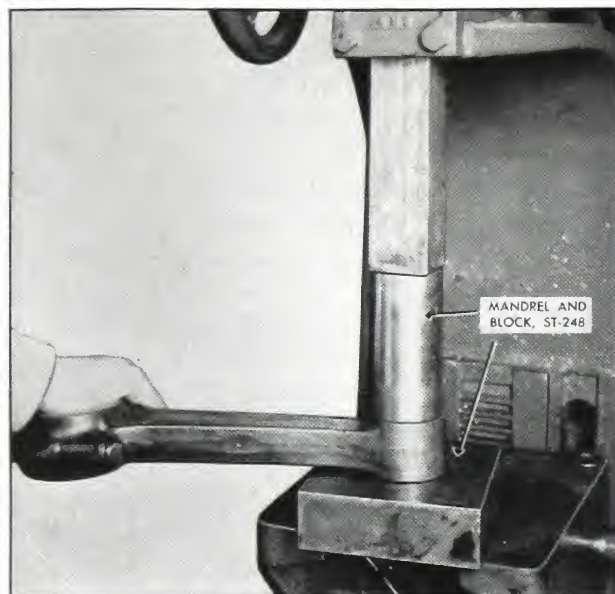

Fig. 2-36. Pressing in new bushing
1. Remove old piston pin bushing with arbor press and ST-248 mandrel and block, Fig. 2-36. Install cap and tighten nuts by the template method. Recheck the rod length on ST-227 checking fixture. If rod has been resized previously, it will be shorter than standard by $.018''$ or more and can not be resized a second time.